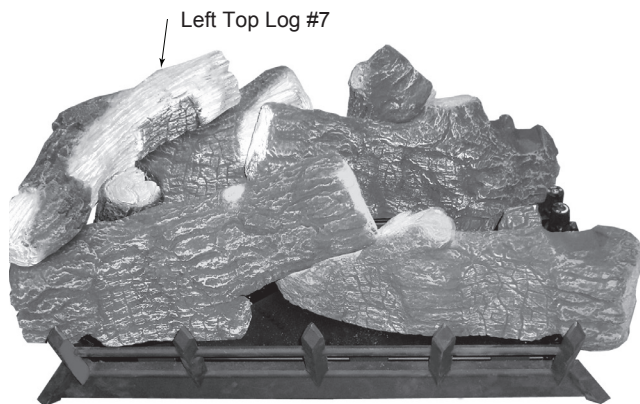

Figure 6.9 - Log #7 Placement
- Place left top log (#7) on left rear log (#4) and left front log (#5) using locating grooves on bottom of #7 and locating blocks on logs #4 and #5. See Figure 6.9.